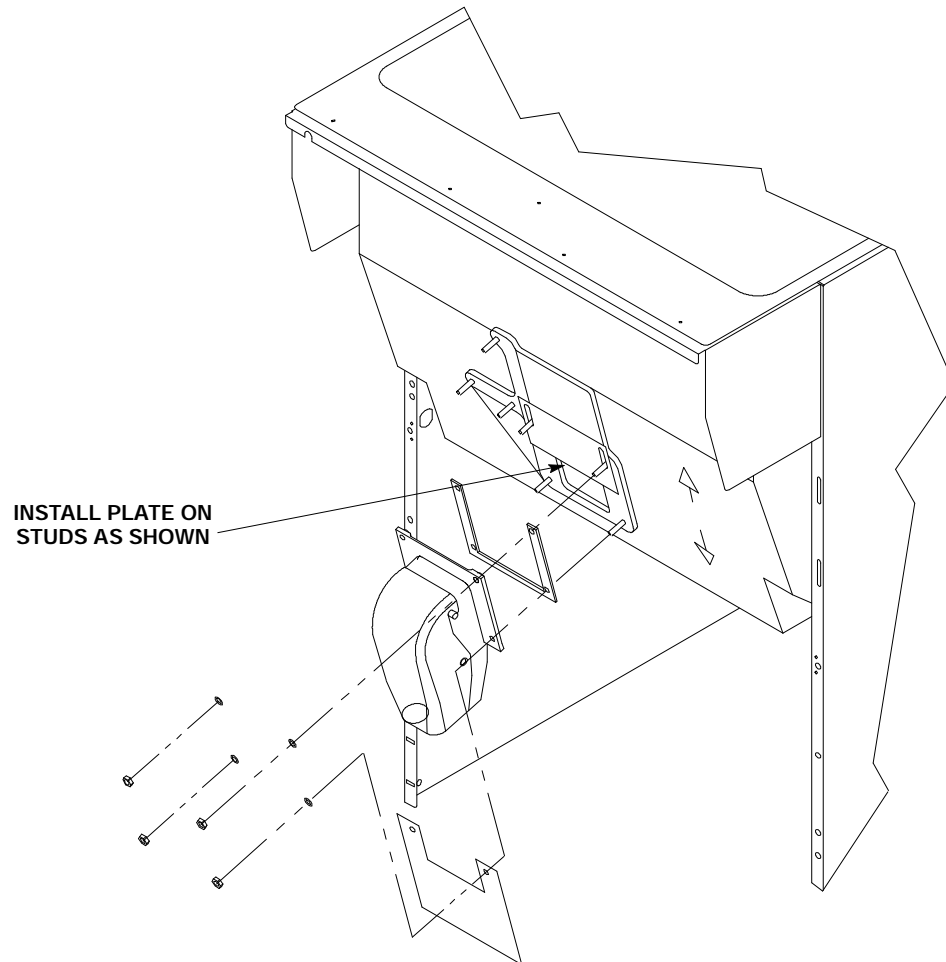

FIGURE 2. GATE RESTRICTOR PLATE
3. Route the icemaker control bulb along the outside of the dispenser cabinet, and into the hopper as shown in Figure 2. Install insulating tubing and mount the bulb to the deflector assembly as shown in Figure 5. Use care when handling the bulb to avoid damaging or kinking it. Do not allow the bulb to contact any cold surfaces, or false sensing will occur. Route the bulb away from electrical terminals, moving parts, or sharp metal edges.